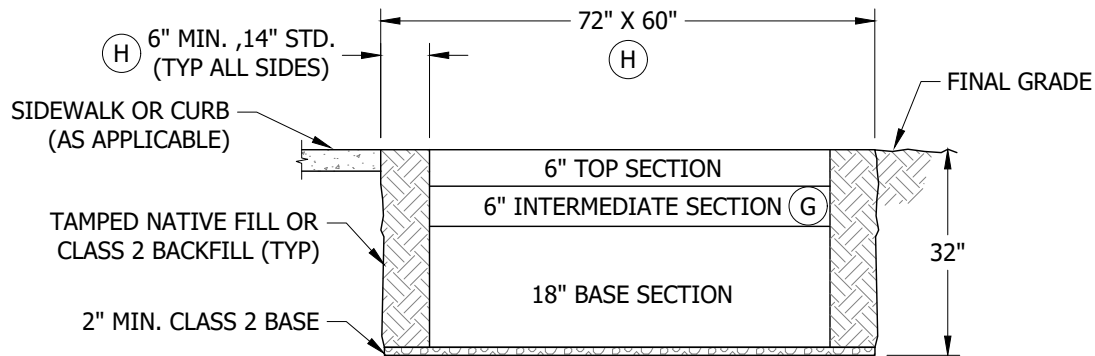

FIGURE 7
- B. AFTER THE LOCATION IS ESTABLISHED, MARK OUT DIMENSIONS FOR THE EXCAVATION WIDTH, LENGTH AND DEPTH PER FIGURES 7 & 8. THE WIDTH AND LENGTH DIMENSIONS GIVEN ALLOW EXTRA SPACE FOR SETTING THE SUBSTRUCTURE AND TAMPING THE BACKFILL.